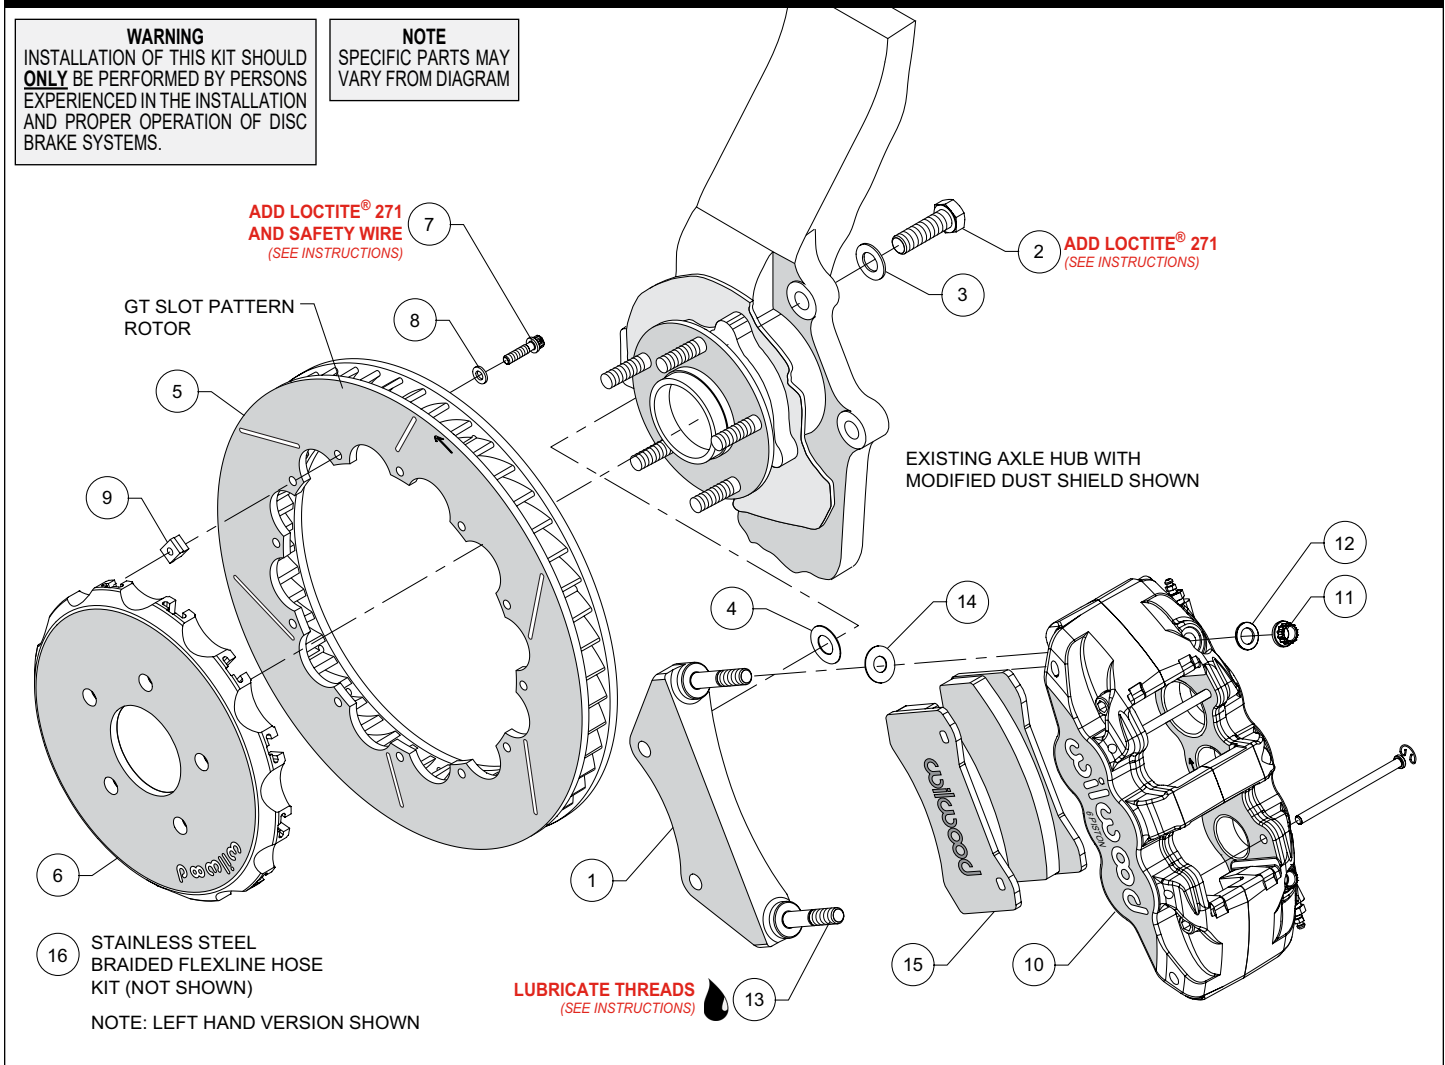
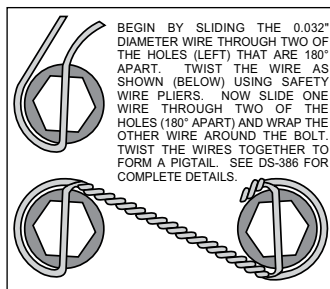

Figure 1. Typical Installation Configuration
Figure 3. Safety Wire Diagram
NOTE: Numbers in parenthesis refer to the parts list and Figure 1 on the preceding pages.
- The caliper mount bracket (1) should initially be installed with clean, dry threads on the mounting bolts. Orient the bracket as shown in Figure 1 and Photo 2, and install using bolts (2) and washers (3). Initially place one .029" thick shim (4) on each bolt between the bracket and upright, Figure 1. Temporarily tighten the mounting bolts. **NOTE:** The bracket must fit squarely against the mounting points on the upright. Inspect for interference from casting irregularities, machining ridges, burrs, etc. Later, after the caliper alignment has been checked, the mount bolts will be secured using red *Loctite*® 271.
- Orient the rotor (5) and the hat (6) as shown in Figure 1 and Photo 3. Attach rotor to hat using bolts (7), washers (8), and t-nuts (9), Figure 1. Follow additional instructions included with the bolt kit. Apply red *Loctite*® 271 to the bolt threads and torque to 120 **in-lb** using a criss-cross pattern. Safety wire bolts using standard 0.032 inch diameter stainless steel safety wire as shown in Figure 3. Please refer to Wilwood's data sheet DS-386 (available at www.wilwood.com/Pdf/DataSheets/ds386.pdf) for complete safety wire installation instructions.
- NOTE:** This kit contains distinct right and left hand calipers that must be mounted in a specific direction, as described below. Lubricate the caliper mounting studs (13) with lightweight oil. Initially place one .030" thick shim (14) on each stud between the caliper and the bracket, as shown in Figure 1 and Photo 4. Mount the caliper (10) onto the bracket (1) using lock nuts (11) and washers (12), Figure 1. Ensure that the caliper is mounted so the largest pistons are at the rotor exit end of the caliper, in relation to the direction of rotor rotation. Temporarily tighten the lock nuts and view the rotor through the top opening of the caliper. The rotor should be centered in the caliper, Photo 5. If not, adjust by adding or subtracting shims (4) between the bracket and the upright. Always use the same amount of shims on each of the two mounting bolts. Once the caliper alignment is correct, remove the bracket mounting bolts (2) one at a time, apply red *Loctite*® 271 to the threads, and torque to 77 ft-lbs.
- Remove the two pad retaining pins from the caliper (10) by carefully popping out the pin retaining clips and sliding out the pins. Insert the brake pads (15) into the caliper from the bottom, Figure 1 and Photo 6. With the friction material facing the rotor, secure the brake pads in place with the pad retaining pins and clips, Photo 7. Reinstall the caliper (10) onto the caliper mounting bracket (1) and temporarily tighten the lock nuts (11). Check that the top of the brake pad is flush with the outside diameter of the rotor, Photo 8. If not, adjust by adding or subtracting shims (14) between the caliper and the bracket. After the caliper pad height is set, torque the caliper lock nuts (11) to 47 ft-lb.